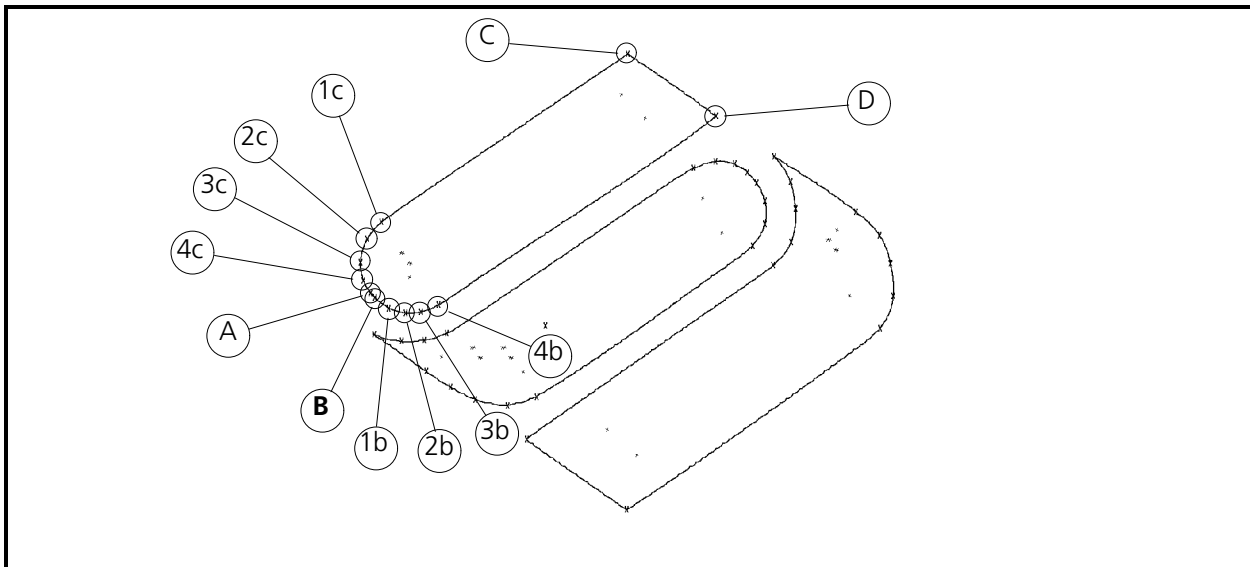

Figure 6-74
Refer to Figure 6-74 to define the sides of the fill. Remember to define the first side beginning with point B.
9. To define the curvature of the arc from point B to the area where the line straightens, change the toolbar Mark selection to Mk1 and enter Mk1s repeatedly around the arc to the straight area (see 1b through 4b in Figure 6-74).